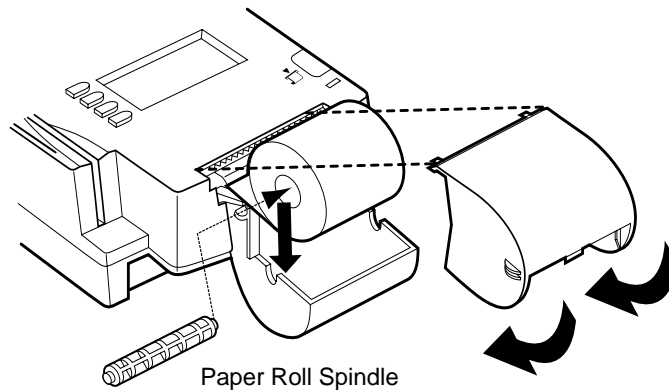

Figure 9 Paper Roll, Spindle, and Cover
7. Replace the cover by inserting the two front tabs first and lightly pushing down until it snaps into place (Figure 9). Ensure the paper's edge is outside the cover.